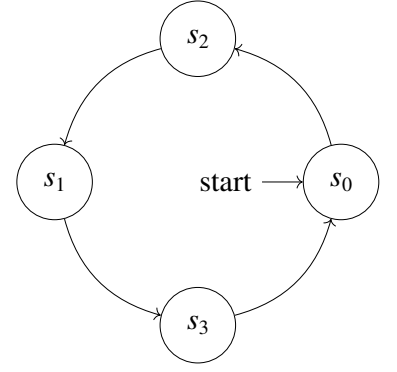

Fig. 1: FSM for the counter
- Fig. 1 shows a *finite state machine* (FSM) diagram for the counter in Fig. 1.